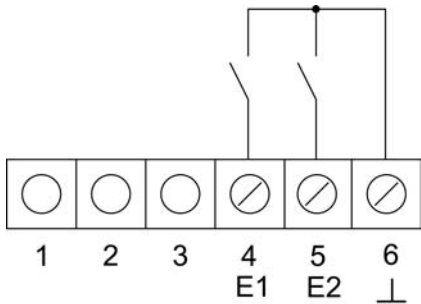

Figure 3: Connection of binary inputs
- Removing the cover (4).
- Isolate terminal insert (1) from electronic insert (3).
- Connect the bus line to the connection terminal (9) in the terminal insert.
- Binary inputs: Connect window contacts, NO contact or NC contact button to terminals 4, 5 and 6 of the connecting strip (8) (Figure 3).
- Insert terminal insert (1) in appliance box. Note label **OBEN** / **TOP**. The bus connection must be to the right and below.
- Fit the Design frame (2) on terminal insert (1).
- Insert the electronics cover (3) into the terminal insert in the correct orientation.